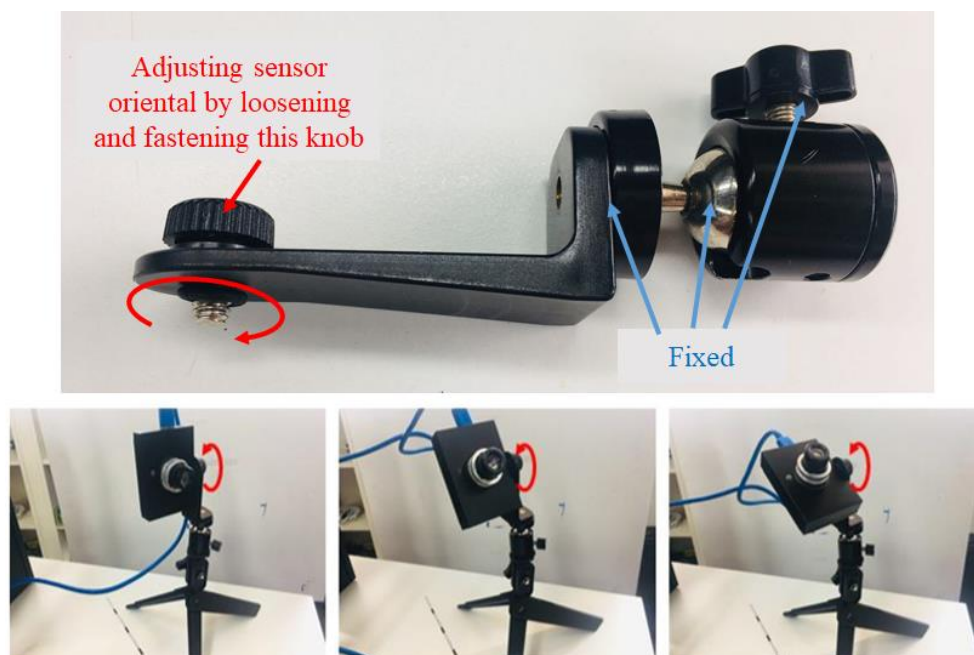

Fig 2-6
- ix. For No.= 26~36, rotate the sensor 30 degrees along the Y-axis as shown in Fig 2-6.